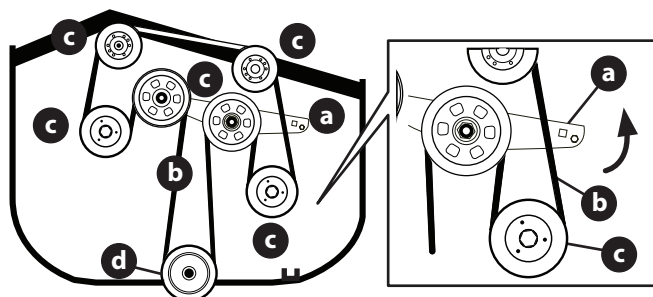

Fig. 35
- Using a 1/2" (12.7 mm) drive in the idler pulley bracket (a), turn the wrench towards the front of the mower and slide the PTO belt (b) off the deck pulleys (c) and the PTO clutch (d) (Fig. 35).